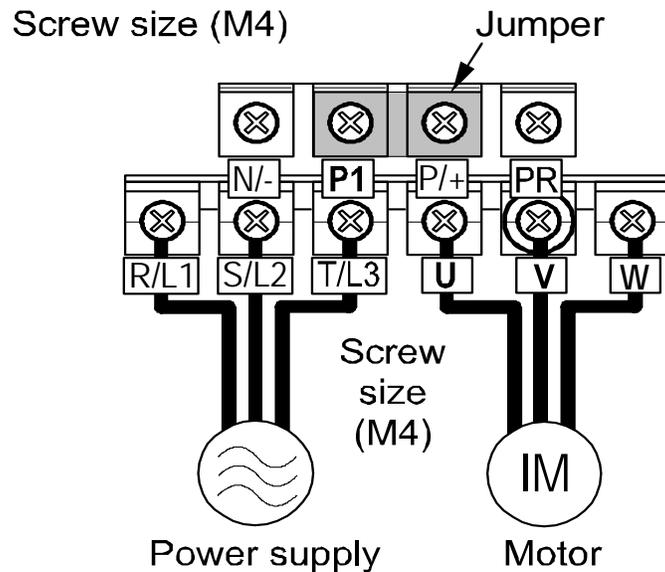

Figure 18: High-Voltage Terminal Block Wiring
3. Connect a 575 VAC three-phase power supply to Terminals R/L1, S/L2, and T/L3 (Figure 18).
For supplied three-phase power, connect the high-voltage power supply to terminals R/L1, S/L2, and T/L3 on the drive (Figure 18).
For supplied single-phase power, connect the high-voltage power supply to terminals L1 and L3 (Figure 18).
4. Connect the motor wiring to high-voltage output terminals U, V, and W on the drive (Figure 18).